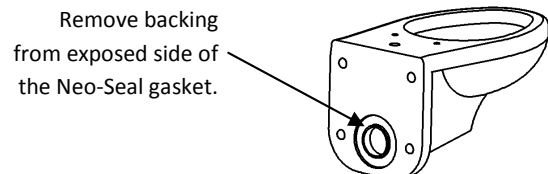

Figure 18
18. Peel off removable backing liner from the opposite side of the gasket and hang the water closet onto the threaded rods. Ensure Neo-Seal gasket seals to the coupling. See **Figure 18**.